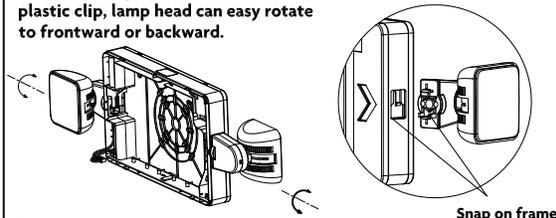

Fig 6
3. Remove side hole plug from housing, snap lamp heads on the unit and connect to PC board(see Fig 6).